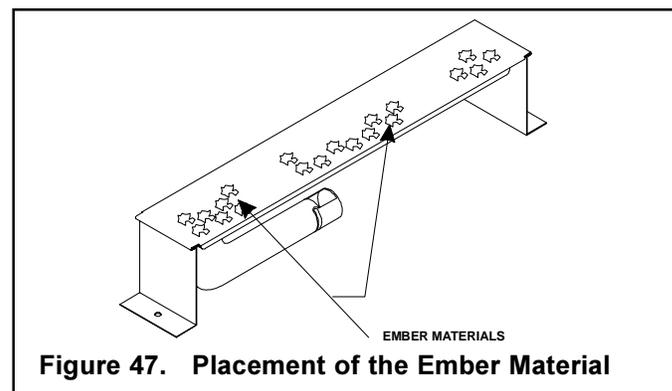

Figure 47. Placement of the Ember Material
- Place dime size pieces of ember material about 1/2 inch apart near port holes in burner top. Do NOT press embers into burner ports. Cover the top of the burner with a single layer of ember material. Then sprinkle GE-93 on top of the burner. For best performance do NOT place embers on the ports at the rear of the burner (see Figure 47).